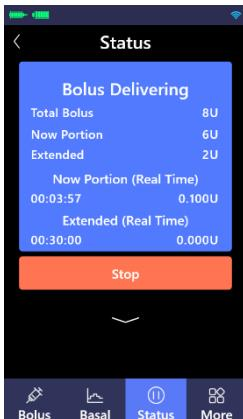

Figure 15.6
**(3)** After the now portion and extended time settings are completed. Click "Start", the insulin pump controller will send a delivery instruction to the insulin pump and the pump will start delivery. The interface will display the progress of the extended bolus delivery (as shown in Figure 15.6).
Click "Stop" in the status interface (as shown in Figure 15.6), then click "ACT" in the pop-up confirmation interface to stop the delivery, or click "ESC" to continue the delivery.